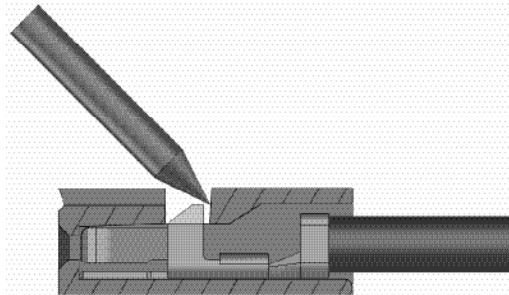

Figure 14
1. Use small tool with pointed tip to remove pink and tan crimped terminal/wire assemblies from 26 pin connector positions 26-11 and 26-13, as shown in Figure 14.
2. Lift up plastic lance, as shown in Figure 14, slowly pull orange crimped terminal/wire assembly out of connector.